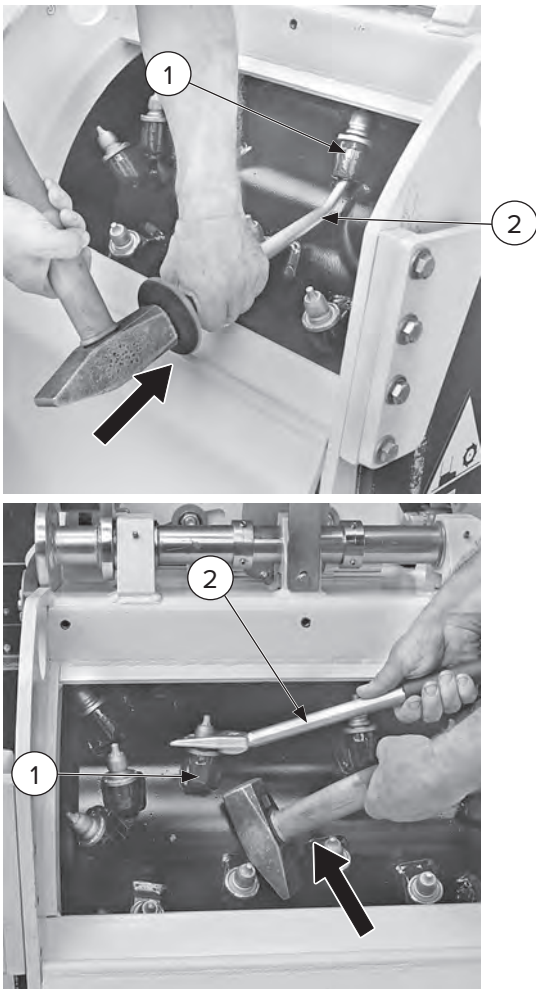

Figure 25
1. The teeth [Figure 25, Item 1] are held in the tooth holder by a retaining spring.